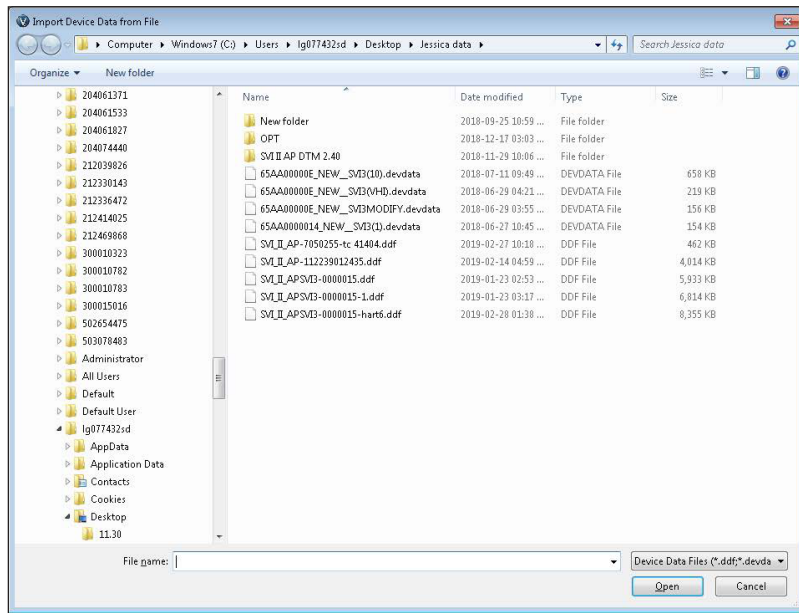

Figure 40 - Import and Add New Device
1. Select the device in the topology tree at the communications DTM level, right-click and select **Import and Add New Device** and Figure 40 appears.